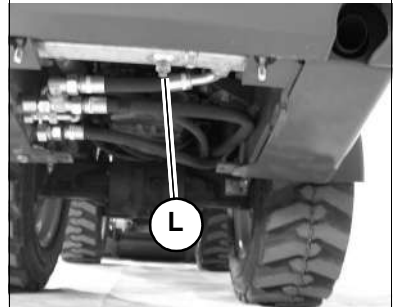

Figure 81 – Cooling System
7. Open radiator drain valve (*L*, Fig. 81). Drain valve is located at bottom of radiator, above frame member. The drain valve opening points toward the front of the machine.